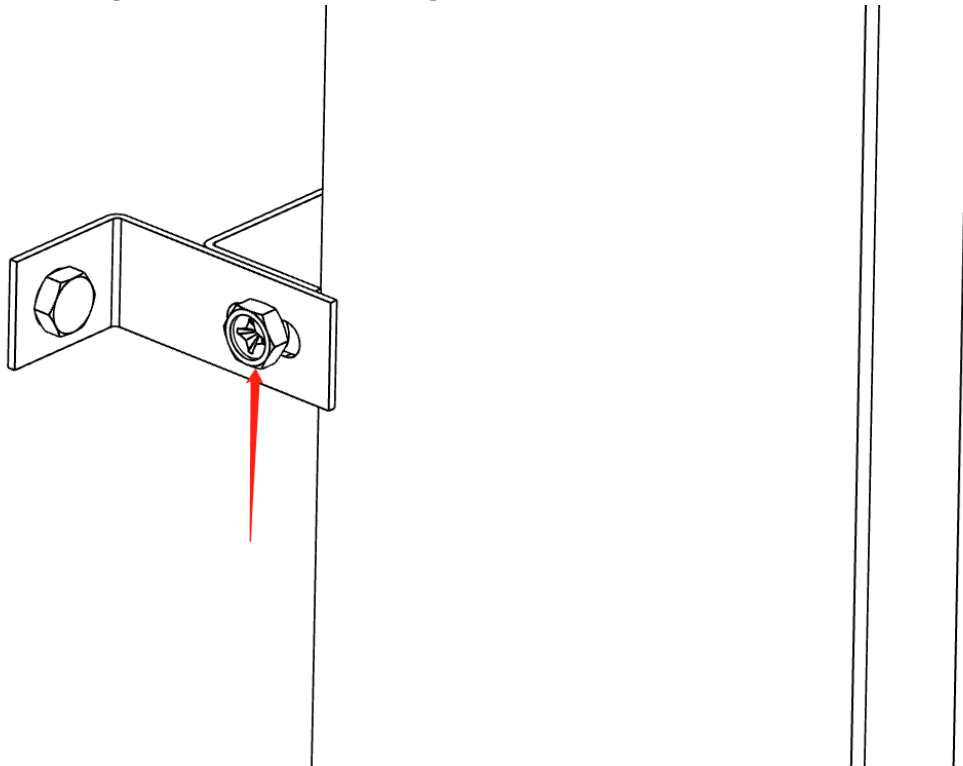

Figure 5-6
h) Adjust the left and right screws to the appropriate position to ensure that the battery is perpendicular to the ground, as shown in Figure 5-6.